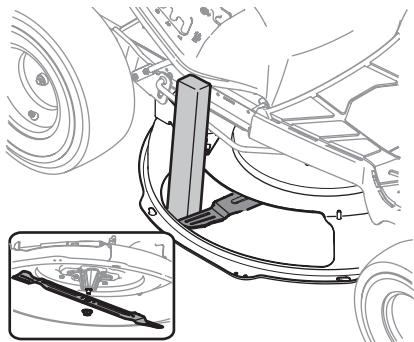

Figure 37
2. Using a block of wood at least 2" x 4" (51 mm x 102 mm), insert it into the deck opening and rotate the blade around until it wedges the wood between the deck opening and the cutting blade, as shown in Figure 37.
3. Remove the hex flange nut that secures the blade to the spindle assembly. See the inset of Figure 37.